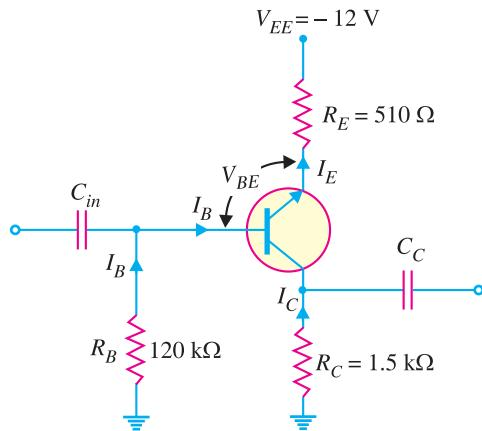

Fig. 9.41
**Example 9.33.** Calculate the operating point of the circuit shown in Fig. 9.41. Given  $\beta = 60$  and  $V_{BE} = 0.7V$ .